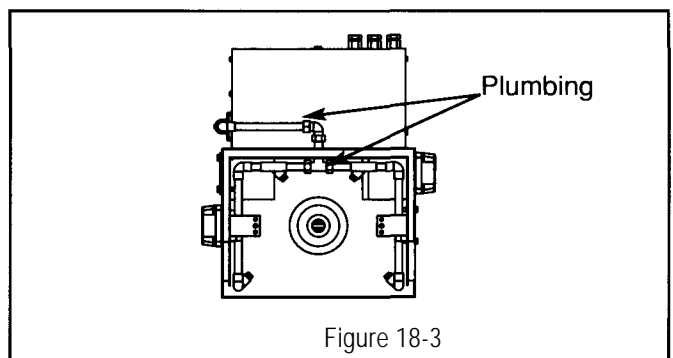

Figure 18-3
5. Loosen appropriate compression fittings and remove plumbing (see figure 18-3).